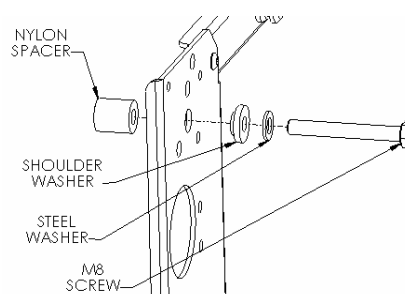
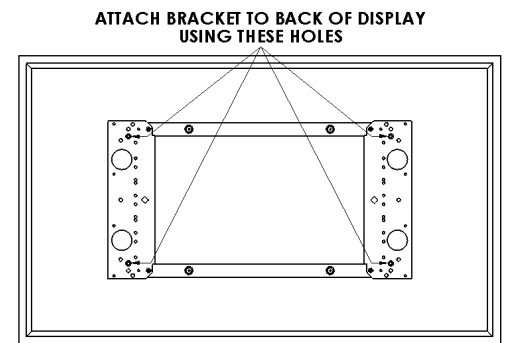

Figure 6
Figure 7
3. Place Nylon spacers over mounting holes on back of screen. Attach mounting brackets to display using the M8 screws, shoulder and steel washers (see Figure 6 & Figure 7). Use longer screws and spacers to clear connections if necessary.